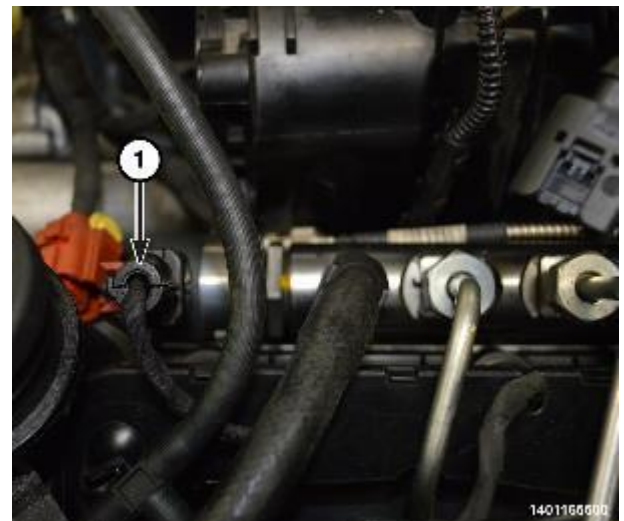

Figure 127 – Fuel Pressure Regulator Connector (Left Rail)
- 65. Disconnect the fuel pressure regulator wire harness connector (1) on the LEFT rail (Figure 127).